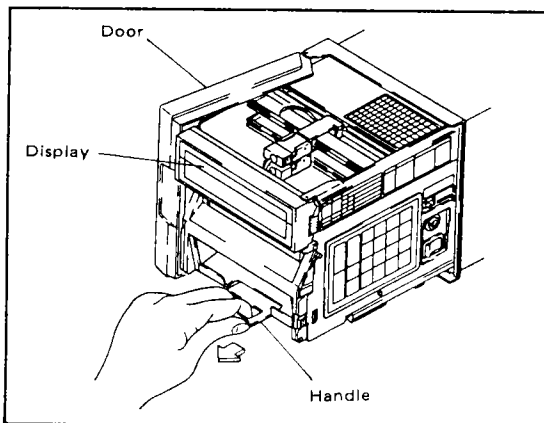

Figure 5-2.
- (2) Open the unit front door by inserting fingertips into the recessed area on the right side near the front and pull outward. Grasp the internal unit handle located at the lower front of the unit and pull the internal assembly as far out as possible. (See Figure 5-2.)